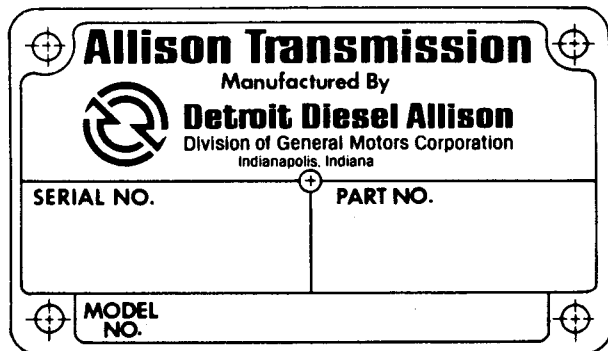

Fig. 1-4. Transmission nameplate
a. Transmission Nameplate. The nameplate (fig. 1-4), located on the lower right side of the transmission housing, has the serial number, part number (assembly number), and model number, all of which must be supplied when ordering replacement parts or requesting service information.